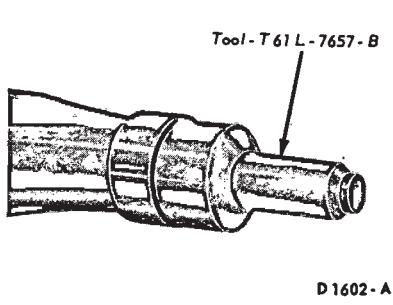

FIG. 21—Installing Extension Housing Seal
7. Install the seal into the housing with the tool shown in Fig. 21. The seal should be firmly seated in the bore. Coat the inside diameter of the fiber portion of the seal with C1AZ-19590-B lubricant.